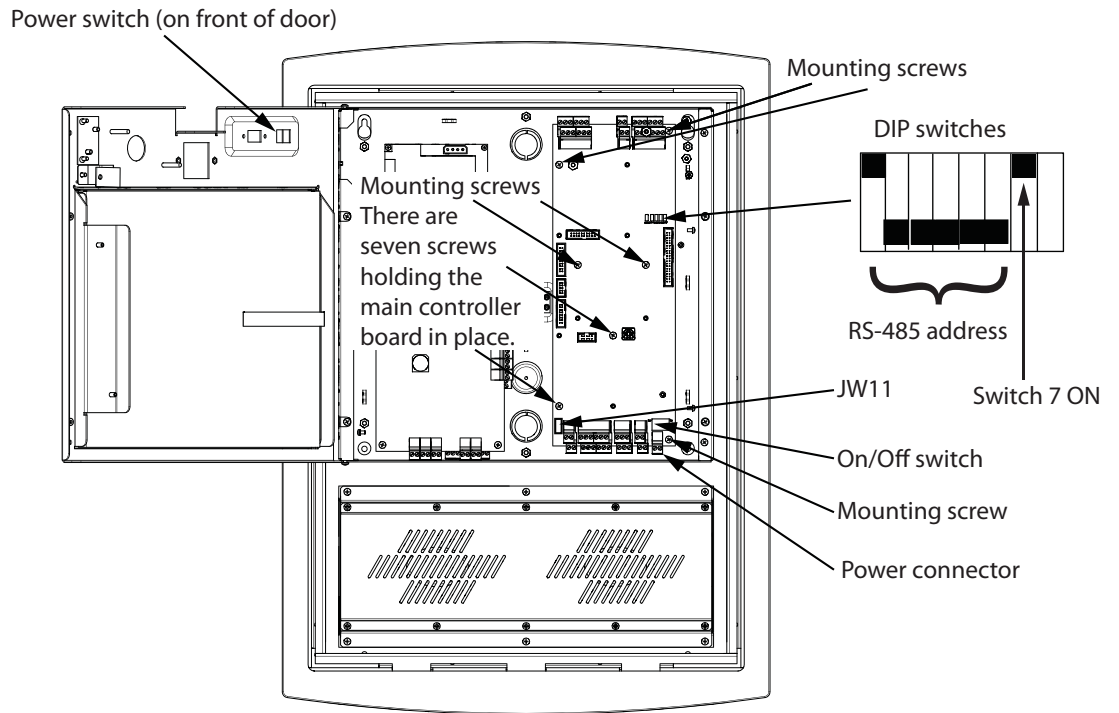

Figure 3 Installing on a TX3-TOUCH-S15-A/TX3-TOUCH-F15-A
See Figures 3, 4, and 5 for the location of the DIP switches.
1. Set DIP switch 7 to ON. See Figures 3 and 4.